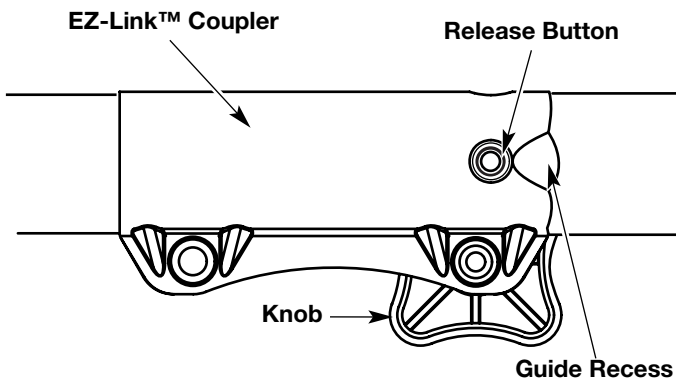

Fig. 19
1. Turn the knob counterclockwise to loosen (Fig. 19).
2. Press and hold the release button (Fig. 19).
1. Turn knob counterclockwise to loosen (Fig. 19).
NOTE: Aligning the release button with the guide recess will help installation (Fig. 19).